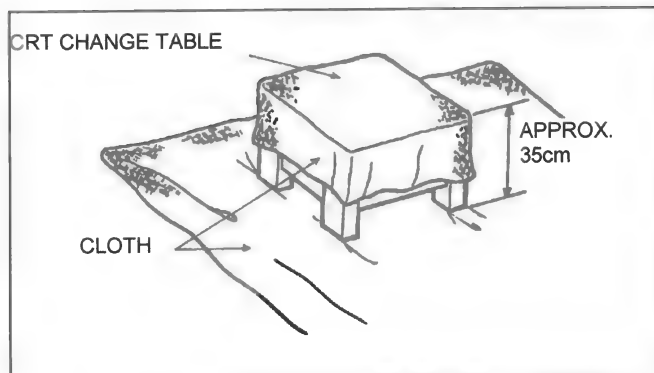

Fig. 3
- 1. Putting the CRT change table on soft cloth, the CRT change table should also be covered with such soft cloth (shown in Fig.3).